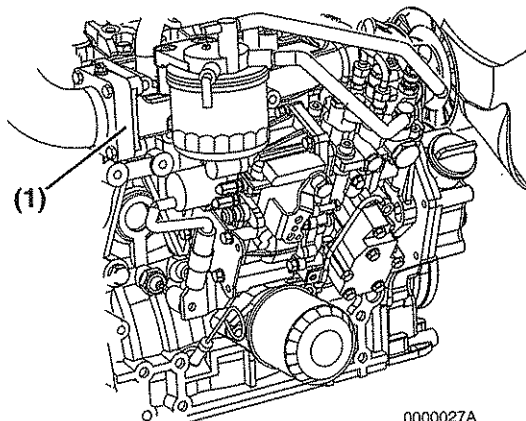

Figure 14
The inlet air heater (**Figure 14, (1)**) is located on the intake manifold. Heated inlet air helps the engine to start easier in cold weather. During the engine starting sequence the inlet air heater is activated for approximately 15 seconds. After the pre-heat indicator goes out, the engine can be started.